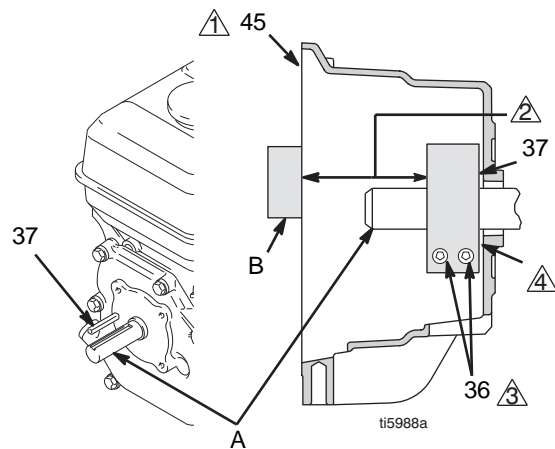

FIG. 10
4. FIG. 10. Loosen two screws (36) on clamp (38),
5. Push screwdriver into slot in clamp (38) and remove clamp.
1. FIG. 10 Install engine shaft key (37)
2. Tap clamp (38) onto engine shaft (A). Maintain dimension shown note 2. Chamfer must face engine.
3. Check dimension: Place rigid, straight steel bar (B) across face of clutch housing (45). Use accurate measuring device to measure distance between bar and face of clamp. Adjust clamp as necessary. Torque two screws (36) to 125 ± 10 in-lb (14 ± 1.1 N·m)
4. Install armature (39) on engine drive shaft.
5. Install four screws (36) and lock washers (35) with torque of 125 in-lb.